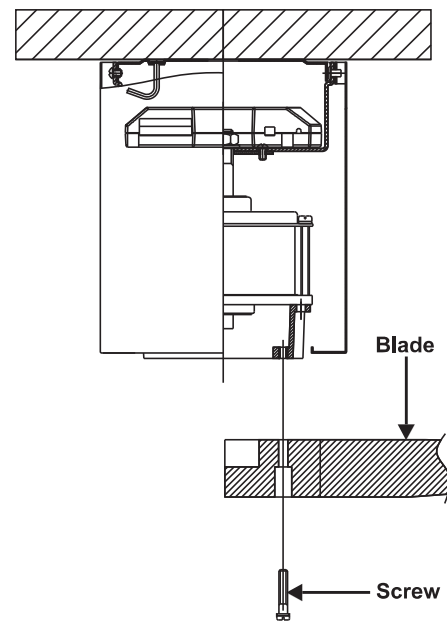

Figure 9
1. Fasten blade to motor using the screws supplied. (Fig. 9)